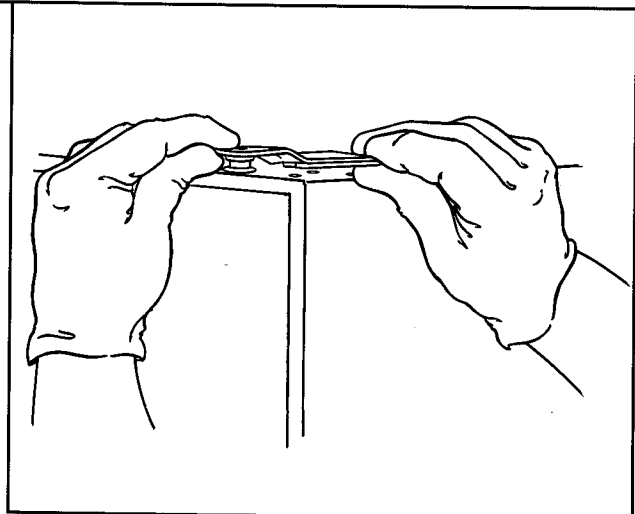

Figure 18
- b. Place top hinge plate on top of spacers on top right side of refrigerator. See Figure 18.